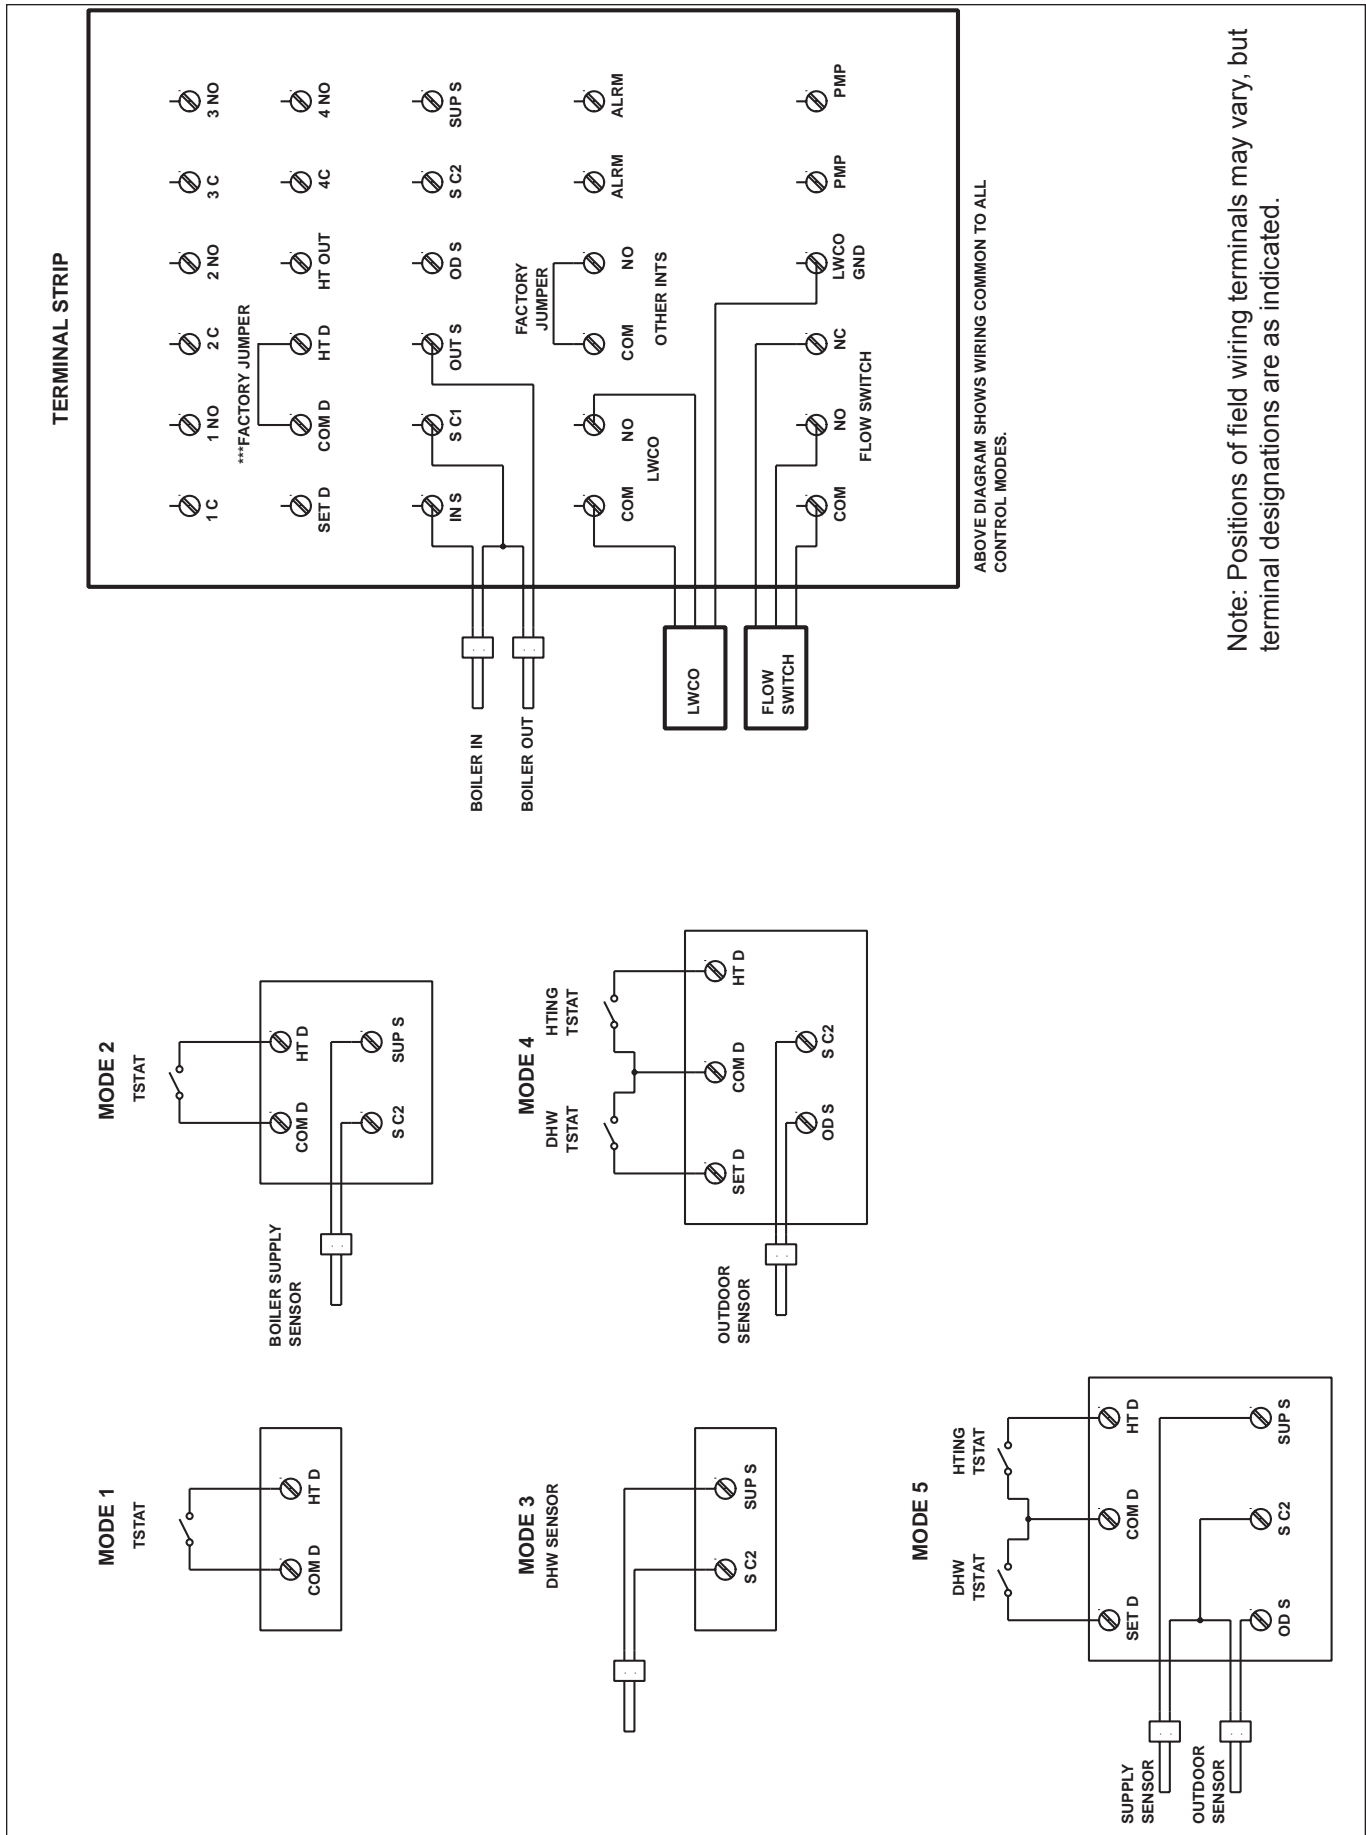

Figure 23. Field Wiring for Modes 1 - 5.
Step 1: Install the additional sensor into the storage tank, wiring it to “SC2” and “SUPS” terminals on the field wiring panel (Figure 23).